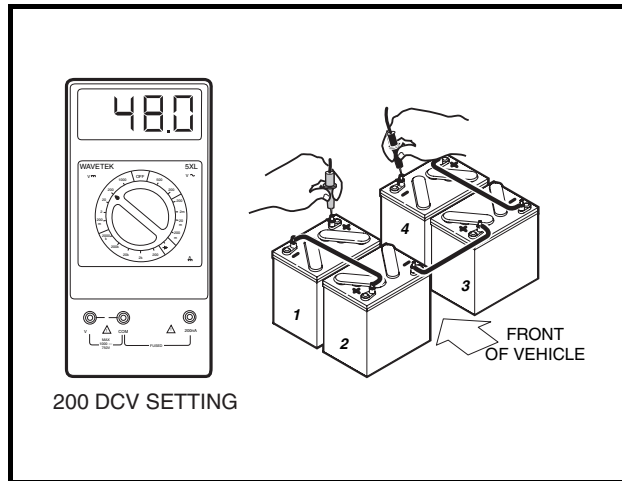
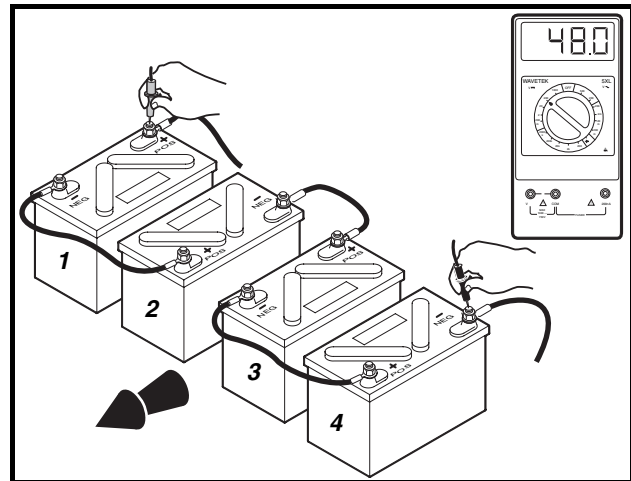

Figure 3-17 Battery Voltage Test – Precedent Style A Battery Configuration
Figure 3-18 Battery Voltage Test – Precedent Style B Battery Configuration
- 4.3. **Style A and B 4 x 12-Volt Precedent only:** With a multimeter set to 200 volts DC, measure the voltage of the battery pack between the positive (+) post of battery no. 1 and the negative (-) post of battery no. 4 (**Figure 3-17, Page 3-20 or Figure 3-18, Page 3-20**).